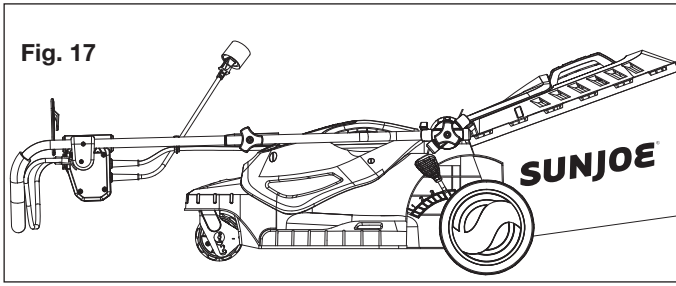

Fig. 17
- ii) Flip the handle assembly to the front until the second arrow on the gear lines up with the storage position indicator. Make sure the gear snaps in (Fig. 17).